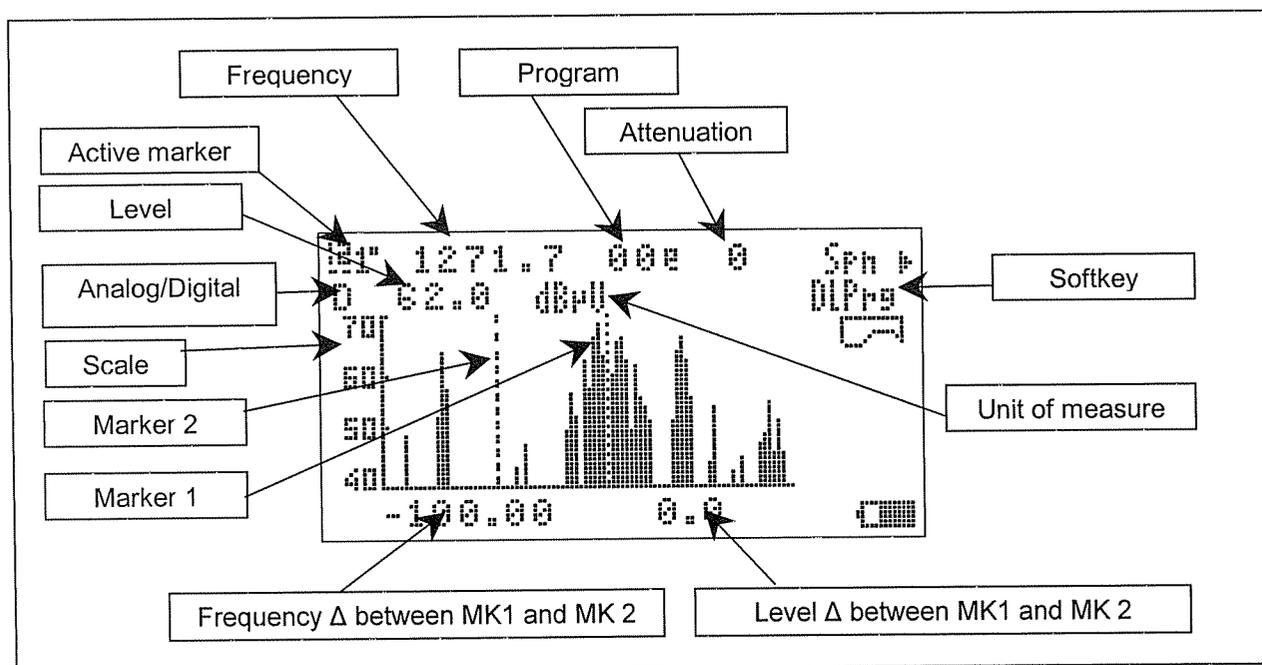

Figure 4 Typical Full Spectrum display (920-2150MHz) with two markers on at different frequencies
Figure 4 shows the full spectrum function (920-2150 MHz) with two markers on. As shown, when markers are alternated via key **MKR (24)** the bottom line on the display reads the difference, both in MHz and dB, both in frequency and level or DCP, between two marked sat signals.
Zooming the desired area of the spectrum is made possible this way. As per Figure 4, when markers are alternated by means of the key **MKR (24)** the bottom line on the display will read the difference, both in MHz and dB, between the sat signals which the two markers refer to. The other operations available with this function are:
- ❑ Selection between analogue carriers and digital transponders through key **DIGI ANLG (25)**.
- ❑ Span (spectrum expansion) setting. Press  **SOFT KEY (6)** to select **Spn▶**, then key **↵ (ENTER) (7)**, then select the desired amount of span via shaft encoder: the reading in MHz of the span thus set will appear on the bottom line of the display. The span can vary among 10, 20, 50, 100, 200 MHz.
- ❑ DLPrng Engagement. Pressing  **SOFT KEY (6)** and spinning the shaft encoder until the cursor hits the **DLPrng**, on the right side of the display allows you to enter the DLPrng (Data Logger Program) mode (see 8.2.2.3 for more details), which is started by pressing key **↵ (ENTER) (7)**.
- ❑ DCP or level printing by means of the RS232 socket. Pressing  **SOFT KEY (6)** and spinning the shaft encoder until the cursor hits  icon on the right side of the display allows you to enter the said printing mode, which is started by pressing key **↵ (ENTER) (7)**.